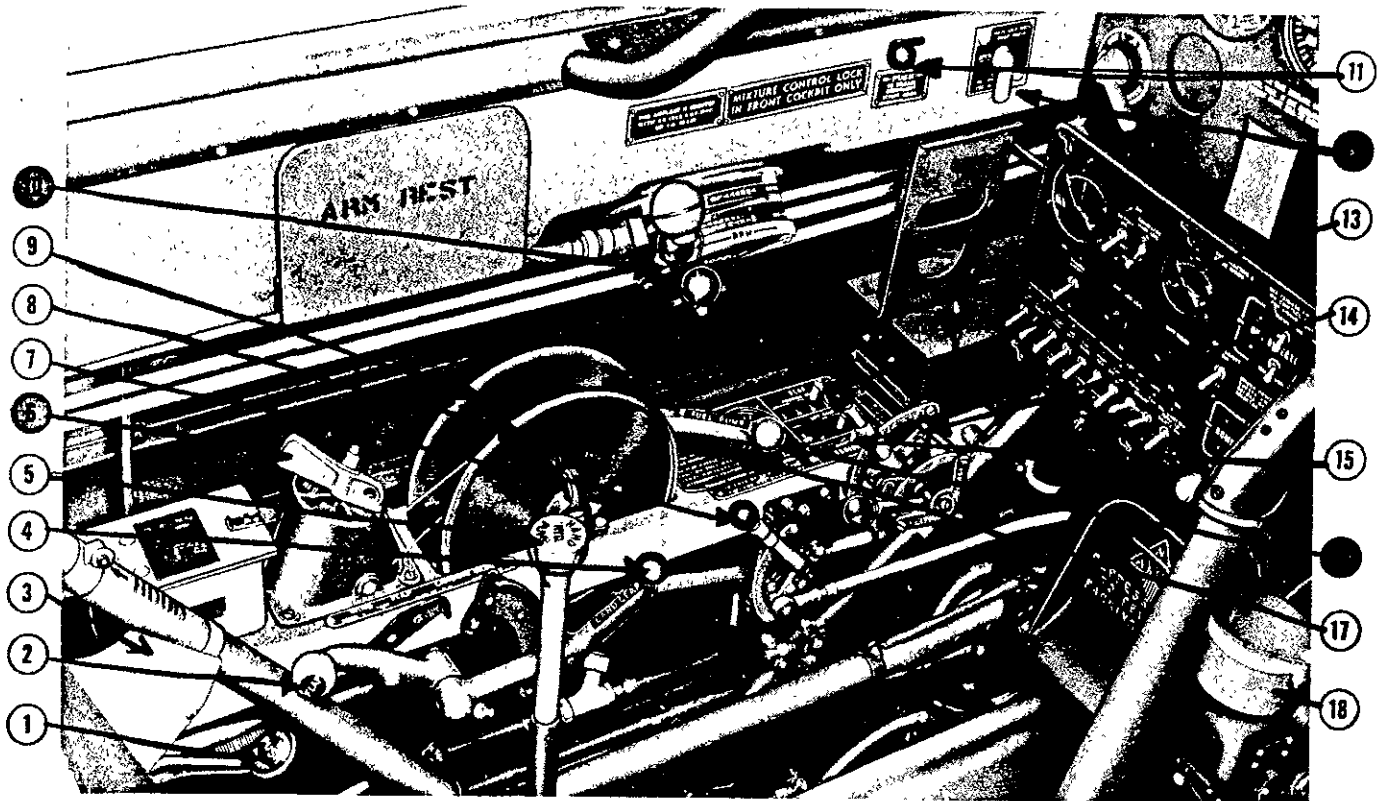

Figure 5 — Left Side Front Cockpit
a. CONTROL. (See figures 5 and 8.)—A control lever for the hydraulically operated main landing gear is mounted on the control shelf at the left side of each cockpit. The front cockpit control has three positions, "UP", "DOWN", and "EMERGENCY" (used to manually lock the gear in the down position). This control will extend or retract the gear. Controls must remain in their "UP" or "DOWN" positions when the gear is operated as there is no neutral position. The control in the rear cockpit will only extend the gear. The non-retractable tail wheel is steered by the rudder pedals within a 15 degree arc (30 degrees on Group I airplanes) in either direction and becomes free-swiveling beyond that point. The tail wheel may be locked in a steerable position for take-off and landing and unlocked to a full swivel position for parking and towing by means of a control located on the left side of the front cockpit above and aft of the flap control.
b. POSITION INDICATOR. (See figure 5.)—Mechanical position indicators on the forward end of the control shelf in the front cockpit indicate the travel and position of the main landing gear at all times.
f. CARBURETOR AIR CONTROL. (See figure 5.)—The carburetor air temperature control quadrant is lo-
b. MANIFOLD PRESSURE GAGE DRAIN. (See figure 5.)—A manifold pressure gage drain is located on the left side of the front cockpit. This drain should be operated for 5 seconds at engine warm-up in order to expel moisture from the line.
b. **FUEL SELECTOR VALVE.** (See figures 5 and 8.)—Selection of fuel supply is controlled by fuel selector valves located on the control shelf of each cockpit. These valves are mechanically interconnected so that movement of one of the selectors will cause the other selector to move in a like manner. The markings on the selector valve indicating fuel selection are "RES," "LEFT," and "RIGHT." All the fuel in the right tank is available with the selector in the "RIGHT" position. In the "LEFT" position, fuel is taken from the left tank through the extended stand pipe until approximately twenty gallons of fuel remain. The remaining fuel (reserve) can be made available to the engine only by moving the selector to "RES." An "OFF" position is provided to shut off completely the flow of fuel.
e. **HAND FUEL PUMP.** (See figures 5 and 8.)—The hand fuel pump is operated to obtain fuel pressure